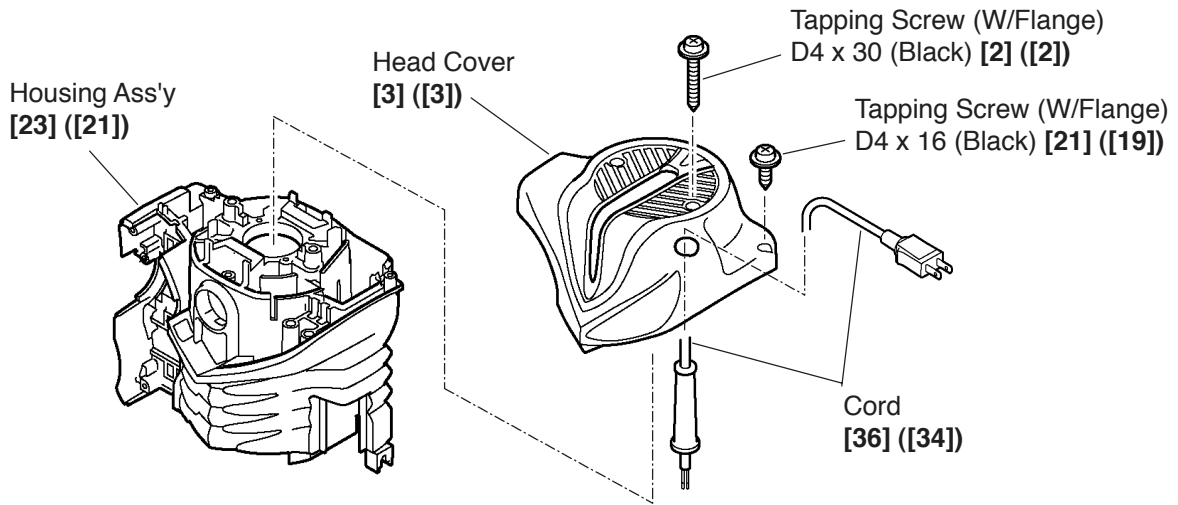

Fig. 3
(3) Removal of the Head Cover [3] ([3]) (Fig. 3)